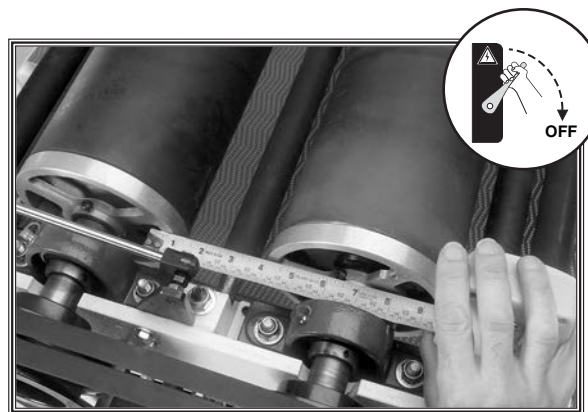

Figure 52. Measuring distance between rear and front drums.
- Measure the distance between the rear and front drum, as shown in **Figure 52**, on both sides.